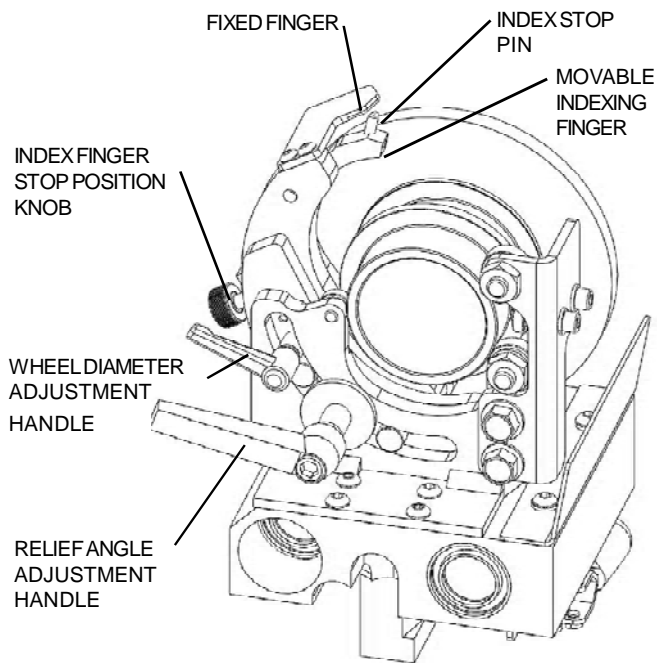

FIG 24.
At this point, if necessary, you can adjust the relief angle by adjusting the relief finger position. To make this adjustment loosen the Relief Angle Adjustment handle. See FIG 24. Rotating the finger system down will increase the relief angle and rotating the finger system up will decrease the relief angle. Adjusting the relief angle or index finger stop position is easiest with the relief head at the left side of the reel.
Once you have the Grinding Head positioned with a reel blade resting on the Fixed Relief Finger high point, adjust the indexing finger stop. There should be about 1/32" [.8mm] to 1/16" [1.5mm] free play of the Index Finger to the back of the blade. The Index Finger is spring loaded to the up position or against the back of the reel blade. To check free play, push down on the Index Finger. See FIG 24. If there is no free play of the Index Finger you want to rotate the Adjustable Index Finger Stop Position Knob counter clockwise. If there is more than 1/16" [1.5 mm] free play you want to rotate the Index Finger Stop Position Knob clockwise.
**IMPORTANT:** The Index Finger position must be set to stop the reel blade and allow traversing to the left without the blade hitting the side of the relief finger. This position must also allow approximately 1/32" [.8 mm] free play of the index finger when the blade is resting on the high point of the relief finger. See FIG. 24.